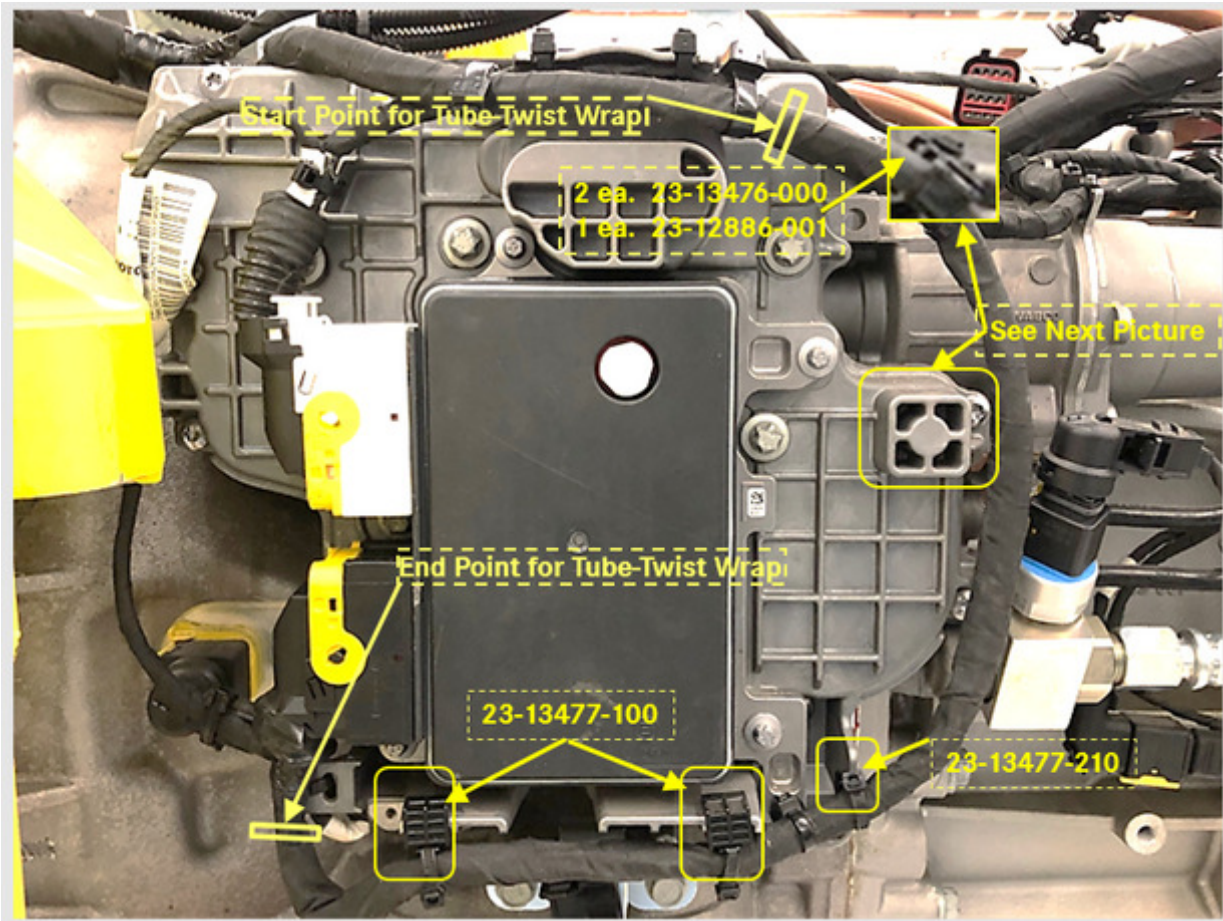

Figure 3: Updated Transmission Control Harness routing-clipping with addition of heavy duty wrap.
- Figure 3 and 4 show how to correct/update Transmission Control Harness installation.
- Add "Tube Twist" (Heavy Duty Wrap) from start to end point locations shown and secure with electrical tape to Transmission Control Harness, then route and clip to Transmission Control Harness using Tie Straps part numbers shown below at each location in Figure 3.